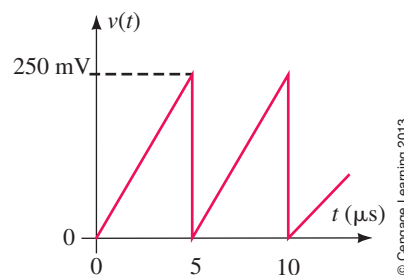

FIGURE 25–53
9. Repeat Problem 7 for the waveform of Figure 25–54.